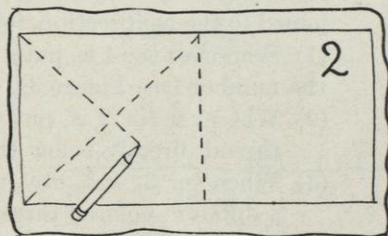

FIG. 2.
- (2) Be sure that this is done on both sides of each piece of the pattern.
- b. Pretend you have an 18-inch square in the left-hand corner of your paper (note dotted line in Figure 2).
- c. Draw a pencil line on the newspaper from each corner of the square to the opposite corner to indicate the true biases (see Figure 2). These true bias lines will be a guide in planning to cut the material. Eighteen inches is chosen for all of the following figures because there are very few beret patterns that will not swing into material of that width.
- a. If the material is not to be interlined skip Section (2), but be sure to follow (1) and (3); then go right on with Section b. If the beret is to be interlined, follow these directions:
- (1) Lay the material with the right side down on the table.
- (2) Lay the interlining on top of the material with the straight grain of the interlining matching the straight grain of the outer fabric.
- (3) With a ruler and tailor's chalk draw the two lines on the wrong side of the material or interlining, showing where the two true biases are, just as you did on the paper (see Figure 2, page 229).
- d. As soon as your teacher approves, follow *either* Section (1) *or* Section (2), then read Section (3).